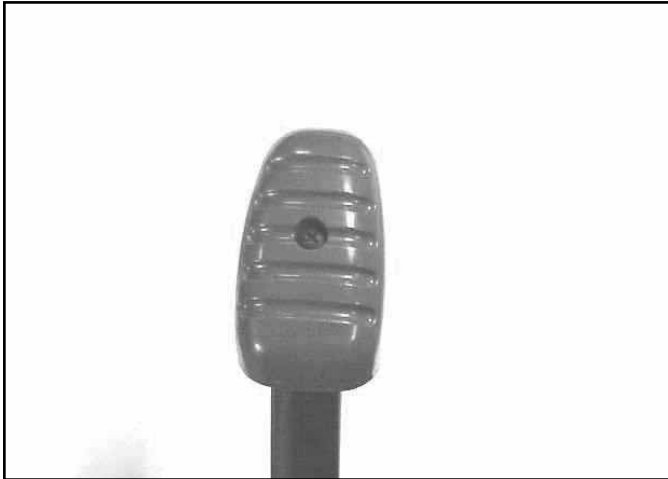

Fig 019
1. To begin disassembly of the Quick Stick, remove the screw retaining the blue lever cap and remove the cap (Fig. 019).